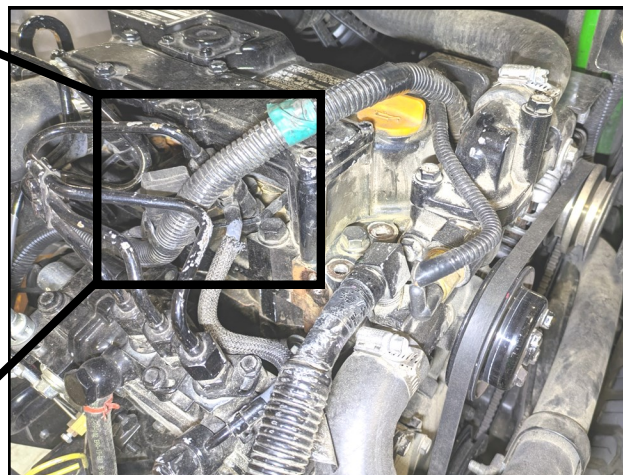

Fig. 1.33a (Route Wires)
- 1.33** Re-route the wire harness between the fuel hardlines as shown in Figures 1.33a and 1.33b and reconnect the white connectors.